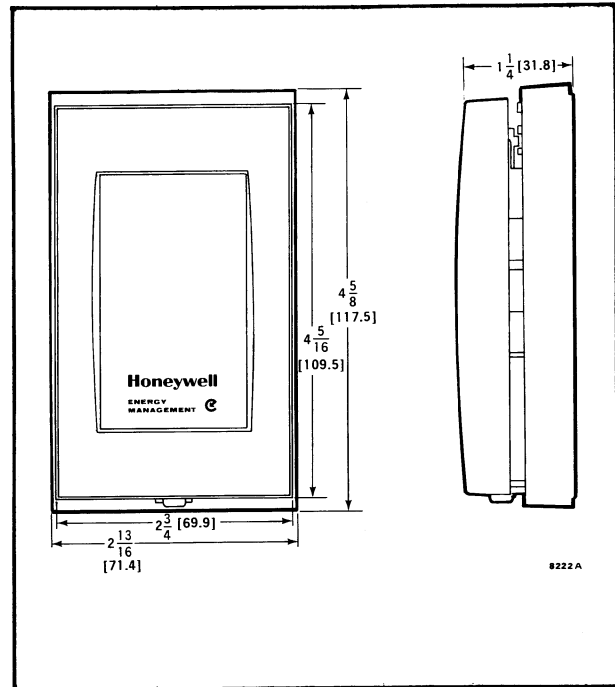

FIG. 1—APPROXIMATE DIMENSIONS, IN INCHES [MILLIMETRES], OF T7067 THERMOSTAT.
**DIMENSIONS:** See Figs. 1 and 2.